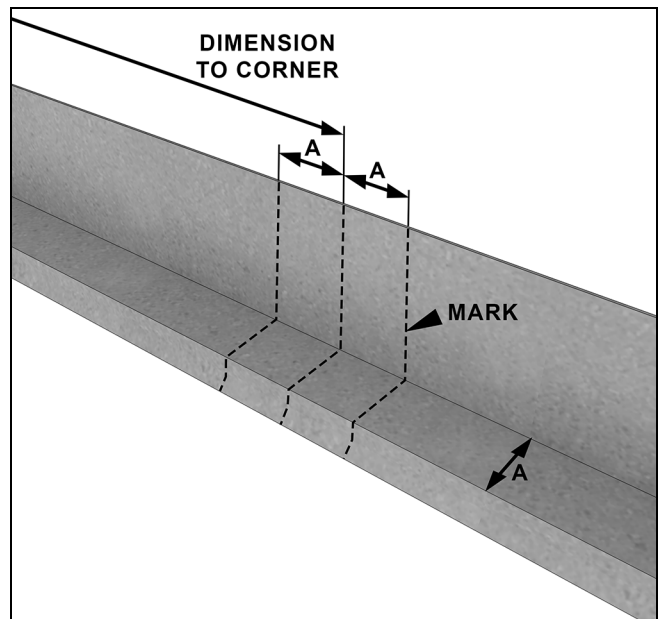

Figure 69
4. Make a one piece corner drip cap out of rigid flashing material. The flashing may be continuous from corner to each end or spliced over the middle of a window. Start by measuring and marking the location of the corner and transferring the measurement of the horizontal projection to both sides of the corner center line. See Figure 69.